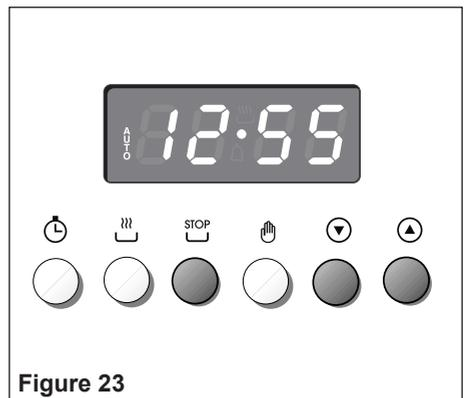

Figure 23
2. Set the end of the cooking time by pressing the  button (the cooking time already added to the clock time will appear), and the  button (fig. 23); if you pass the desired time you may get back by pushing the  button. After this setting, the  symbol will disappear. If after this setting, the **AUTO** flashes on the display and a buzzer sounds, it means there was an error in the programming, that is that the cooking cycle has been superimposed on the clock. In this case, modify the end of cooking time or the cooking period itself by following again the above mentioned instructions.